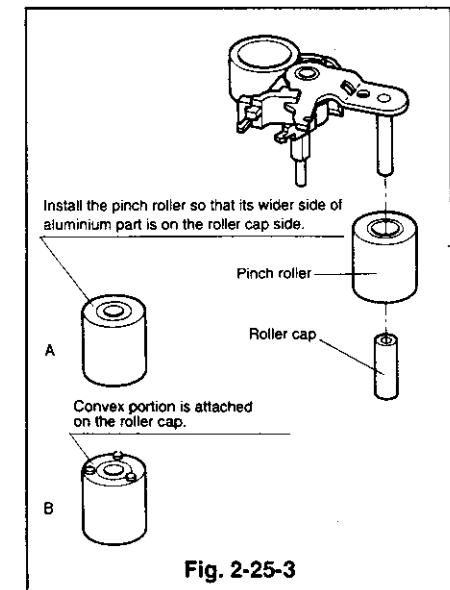

Fig. 2-25-3
- ② Install the pinch roller so that the side, with the widest aluminium bushing, is on the roller cap side. Push the roller cap inside to secure the pinch roller. (Refer to Fig. 2-25-3)
**Note:** There are two types of pinch rollers as shown in Fig. 2-25-3. Each should be installed in the direction shown below.